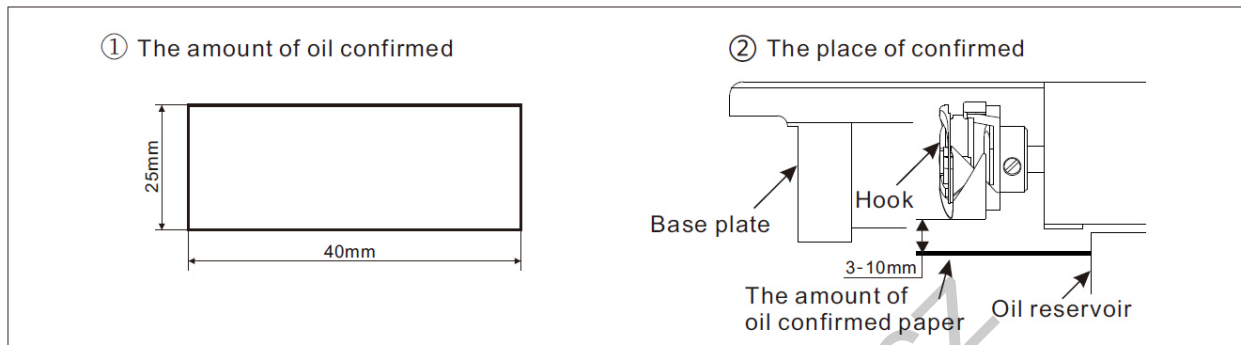

Fig.10
- a) After running the sewing machine for three minutes, secure the oil flow checking paper as shown in Fig. 10 and run the machine for about five seconds. Then check the oil tape marked on the paper.